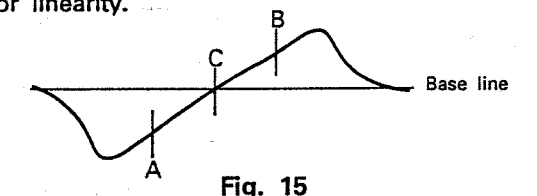

Fig. 15
5. Use the T203 core to form the S-curve shown in Fig. 15. Adjust the symmetry of A and B about point C for linearity.